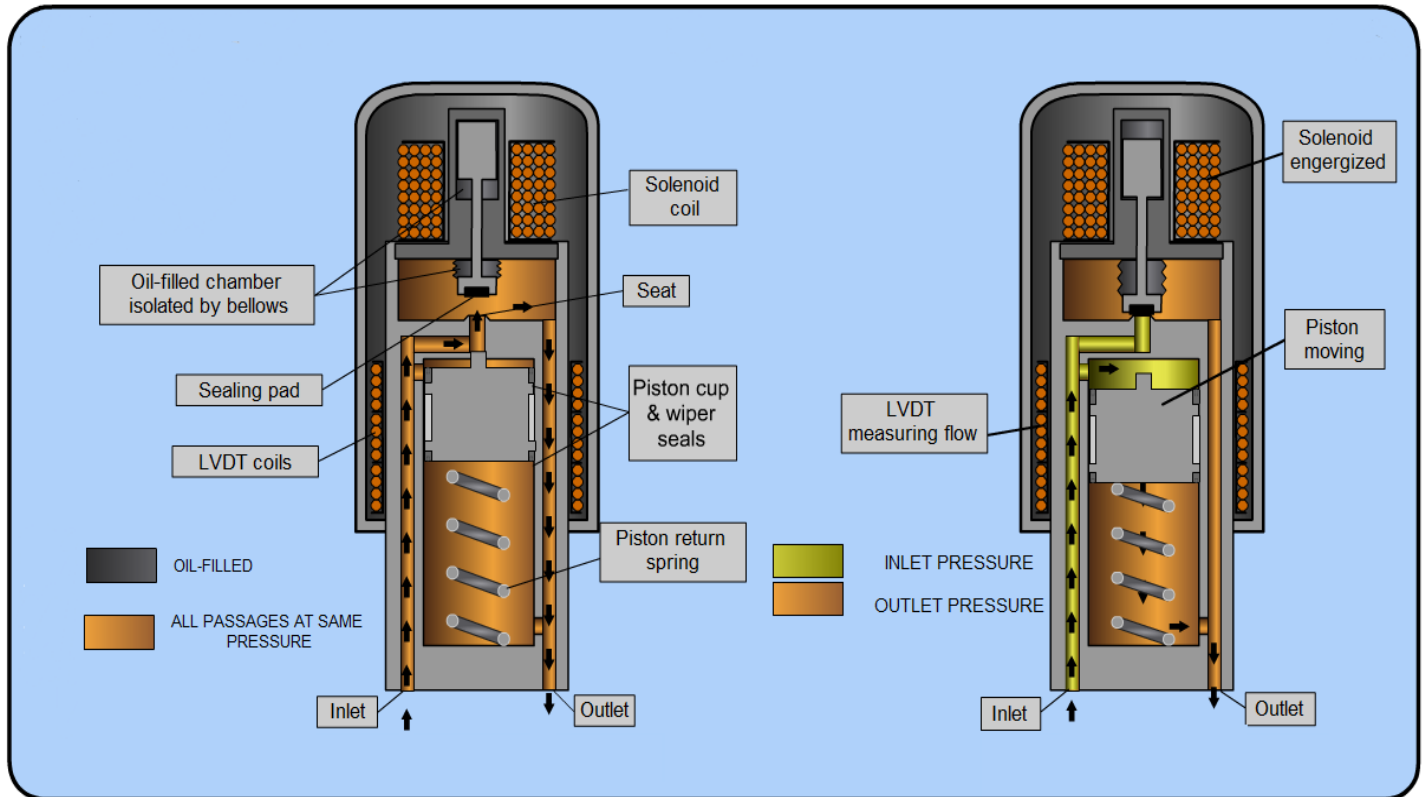

Figure 8: PDFM Internals
10.4.1 The PDFM operates similar to a launching style meter proving device and is the most accurate flow measurement device within this SkoFlo low flow CIMV. It creates a flow measurement cycle by diverting flow to move a piston against a return spring whose movement is monitored by a linear variable differential transformer (LVDT). Flow diversion is accomplished by a direct acting solenoid valve closing off a by-pass loop to a flow measurement piston shown in Figure 8. Flow diversion, piston speed measurement, and piston return comprise one PDFM cycle. Flow rate is reported at surface conditions by the CIMV, measuring pressure and flow rate at subsea conditions, then calculating flow that would be measured at surface conditions using the bulk modulus of the fluid.